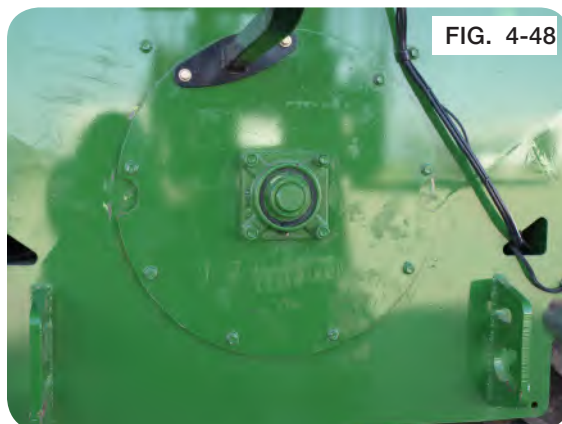

FIG. 4-48
27. Insert hardware for rear auger cover, SMV bracket, and rear ladder, if equipped. (Figs. 4-48 and 4-49)
28. Torque all hardware to specification. See "Torque Chart" in this section. (Figs. 4-48 and 4-49)